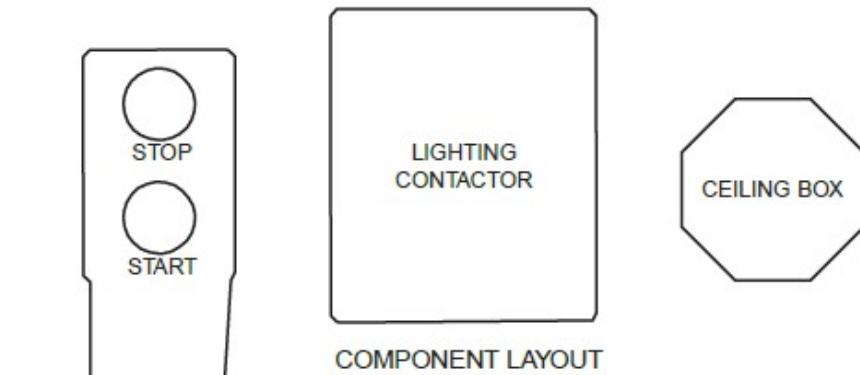

Figure 1 ■ Component Layout
1. Refer to *Figure 1* for the physical layout of the project.